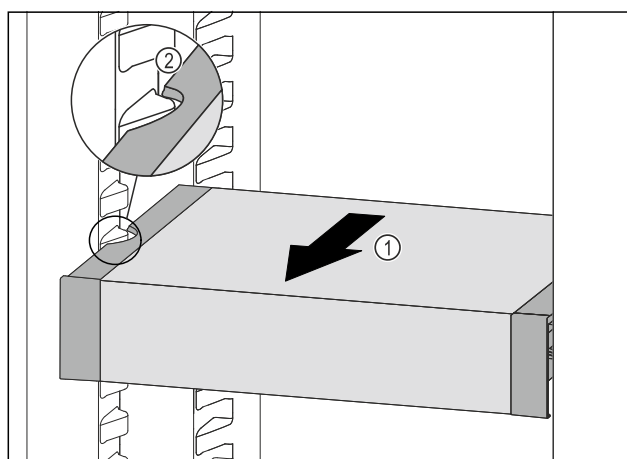

Fig. 131
- Pull VarioSafe forward *Fig. 131 (1)* until the recesses in the side of the VarioSafe are at the level of the support rib in the refrigerator compartment. *Fig. 131 (2)*